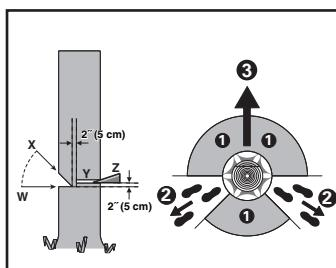

Figure 2
The chainsaw operator should keep on the uphill side of the terrain as the tree is likely to roll or slide downhill after it is felled. An escape path should be planned and cleared as necessary before cuts are started. The escape path should extend back and diagonally to the rear of the expected line of fall as illustrated in Figure 2.
Make the notch 1/3 the diameter of the tree, perpendicular to the direction of falls as illustrated in Figure 2. Make the lower horizontal notching cut (W) first. This will help to avoid pinching either the saw chain or the guide bar when the second notch (X) is being made.
cm) higher than the horizontal notching cut as illustrated in Figure 2. Keep the felling back cut parallel to the horizontal notching cut. Make the felling back cut so enough wood is left to act as a hinge. The hinge wood keeps the tree from twisting and falling in the wrong direction. Do not cut through the hinge.